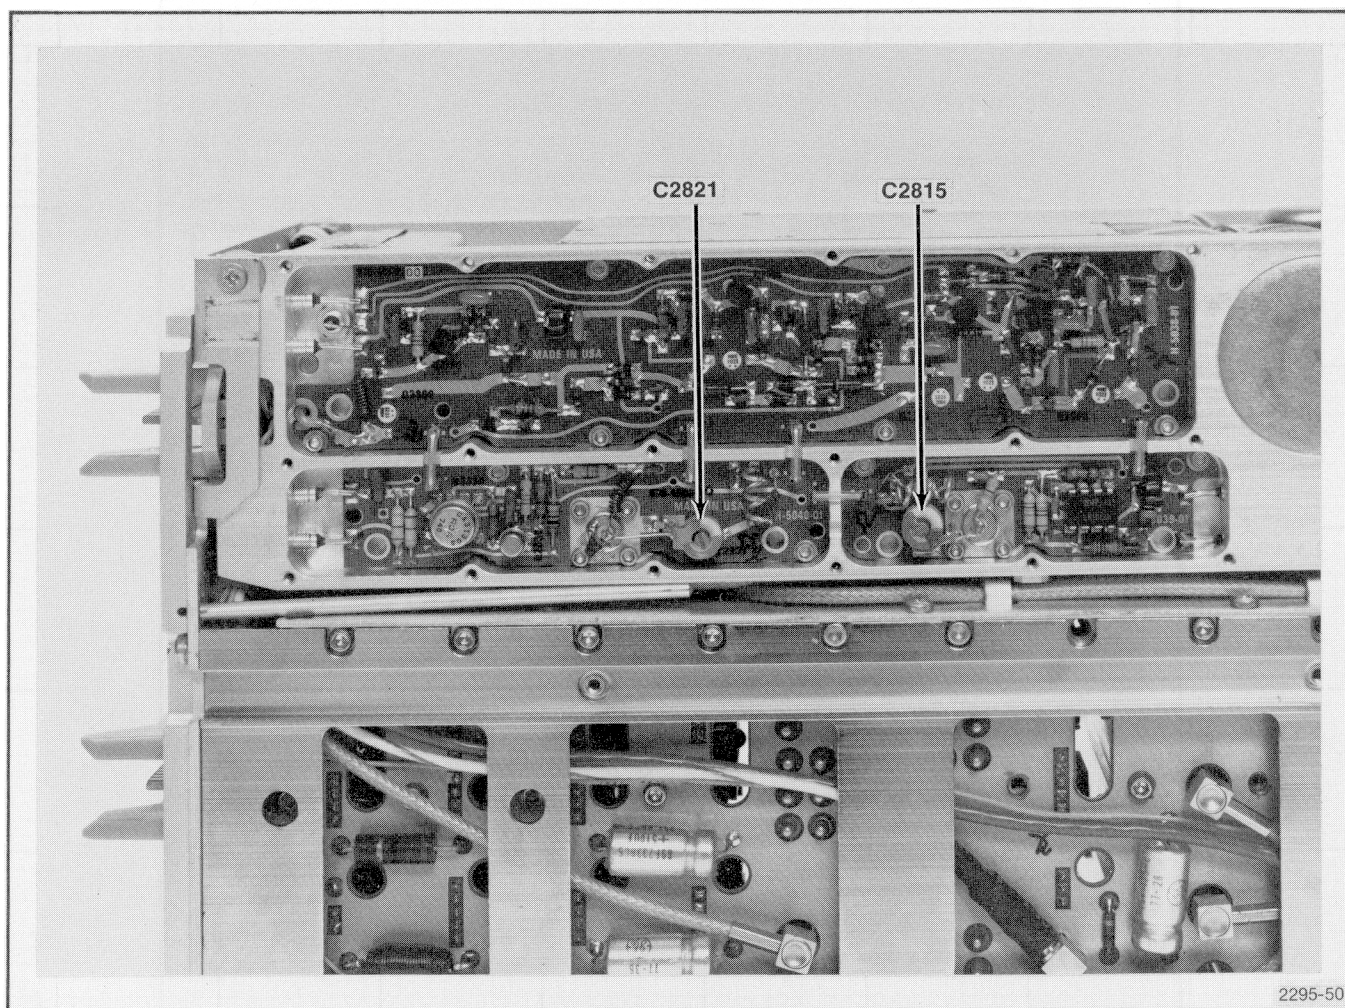

Fig. 4-42. Location of C2821 and C2815.
- f. Adjust Coaxial Resonator input tuning with C2821 (see Fig. 4-42) for maximum deflection.
- h. Adjust Waveguide REsonator input tuning with C2815 (Fig. 4-42) for maximum deflection.
k. Measure the return loss at 510 MHz. If return loss is less than 12 dB down from the reference, adjust C2815 (Fig. 4-42) until the loss is at least 12 dB down.
m. If the return loss is less than 12 dB, adjust C2821 (Fig. 4-42) until the loss is at least 12 dB at 510 MHz.